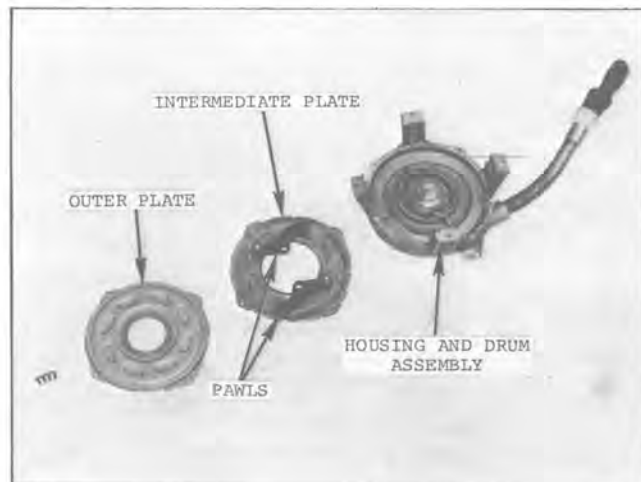

Fig. 26 — Starter Assembly Layout
2. Remove outer plate and intermediate plate assembly. See Fig. 26.